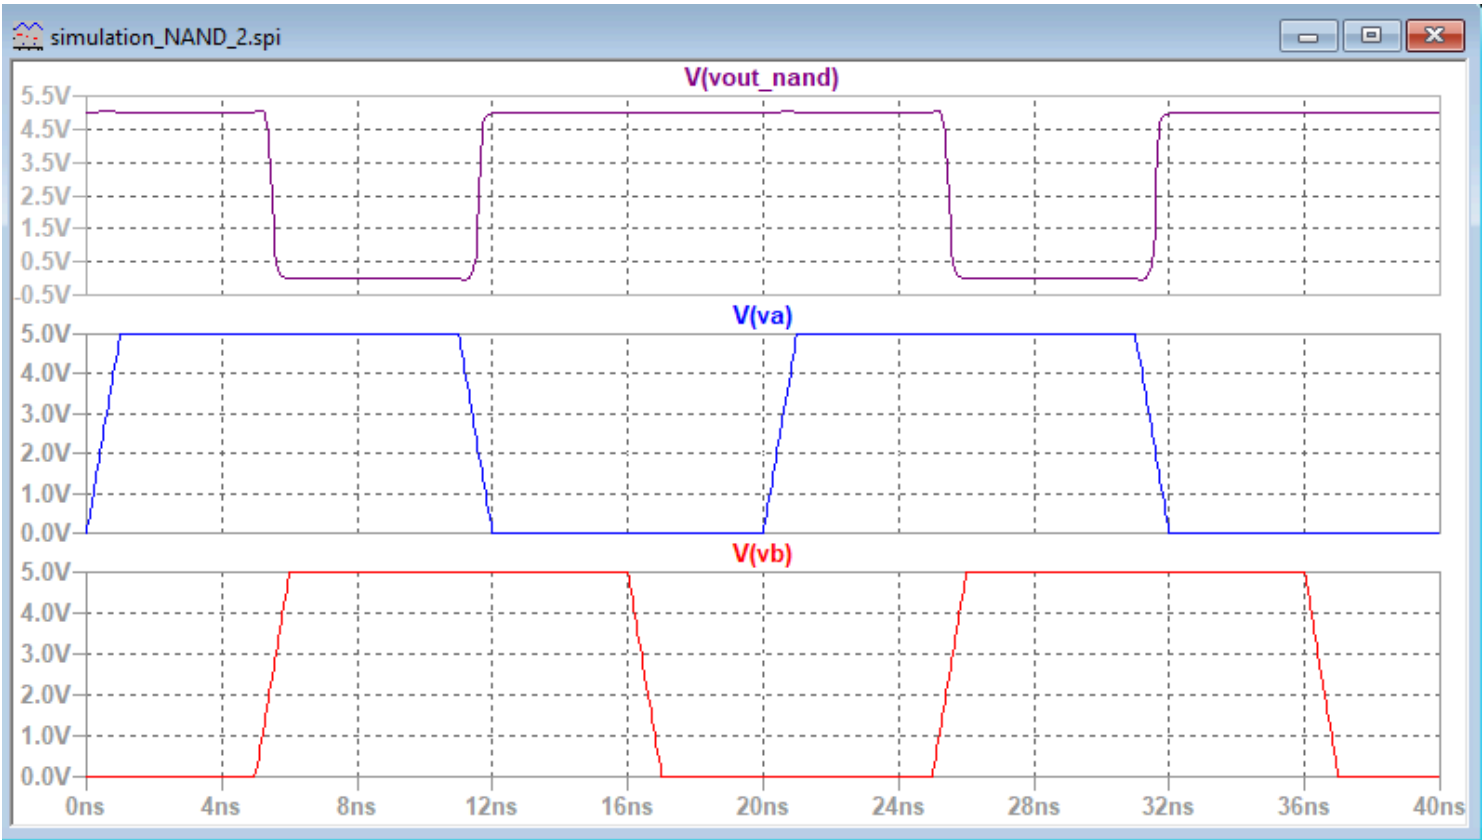

Figure 1.5: 2-Input NAND Gate Truth Table Simulation
- Figure 1.5 validates our NAND gate functionality through simulation. The simulation of the NAND gate matches the truth table above.